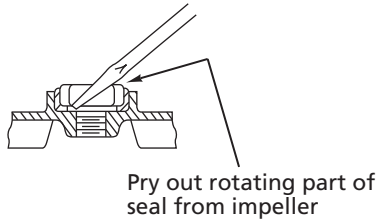

Figure 6
3. Pry loose the ceramic seal in impeller, apply screwdriver between seat and cavity in impeller (Figure 6). Clean cavity from which seat was removed.